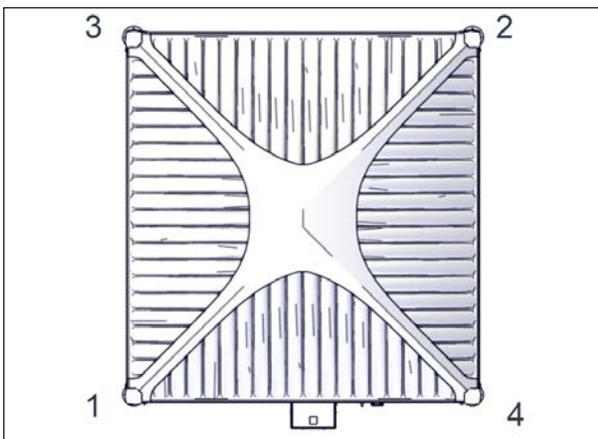

FIGURE 42: INSTALLATION PATTERN FOR THE OUTER CORNER BRACKETS (4)
- Install the outer corner brackets following the installation pattern shown in Figure 42. The first bracket goes to corner number 1 and so on.